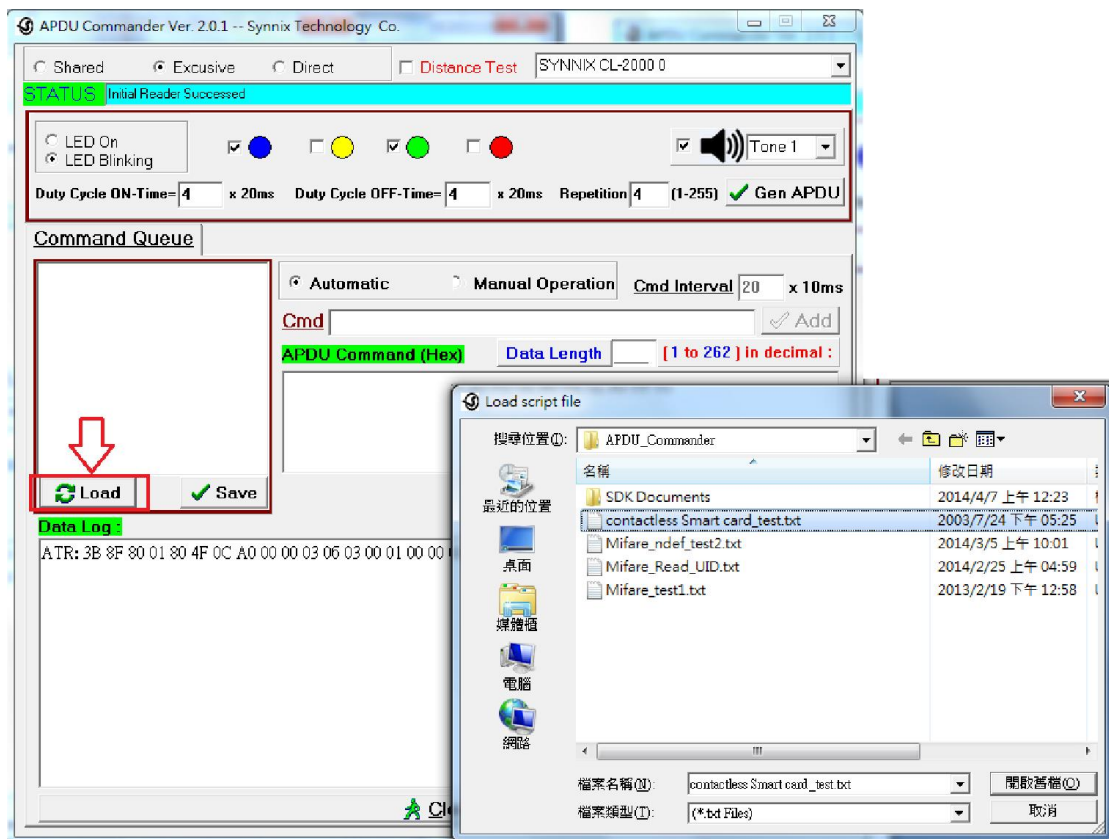

Figure 12
7. Select script file "contactless smart card_test.txt". See Figure 12.